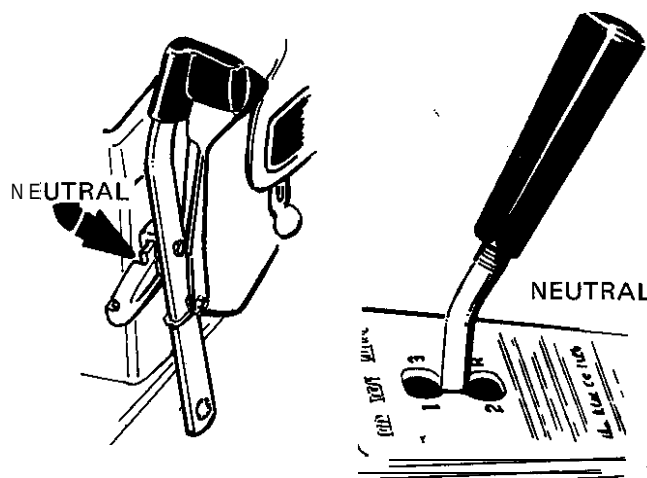

FIGURE 15
2. Place the transmission shift lever **or** hydrostatic control in neutral. **THE ENGINE WILL NOT START UNLESS THE TRANSMISSION LEVERS ARE IN NEUTRAL.** (See figure 15).